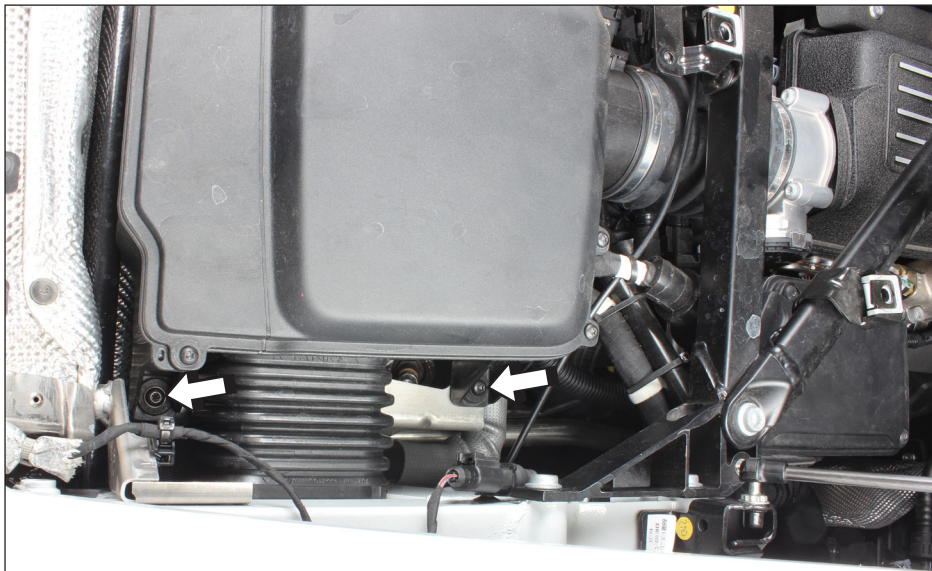

Figure 20
14. Unscrew the marked bolts on both sides and carefully remove the air boxes out of the engine compartment (Figure 20, 21).